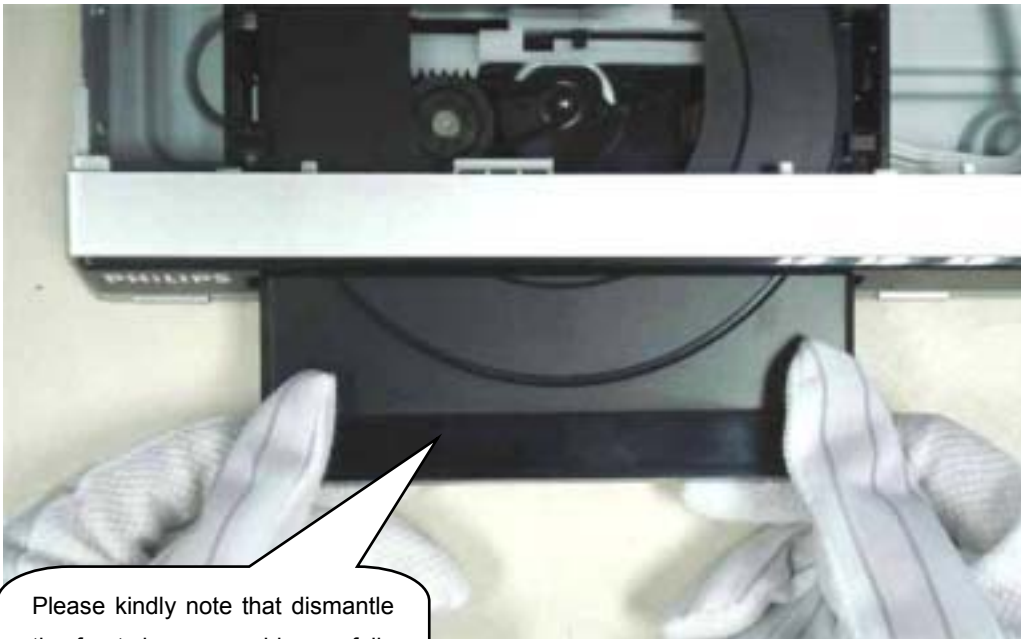

Figure 2
**Step2:** If it is necessary to dismantle Loader or Front Panel, It should be remove the Front door assembly first. (Figure 2)